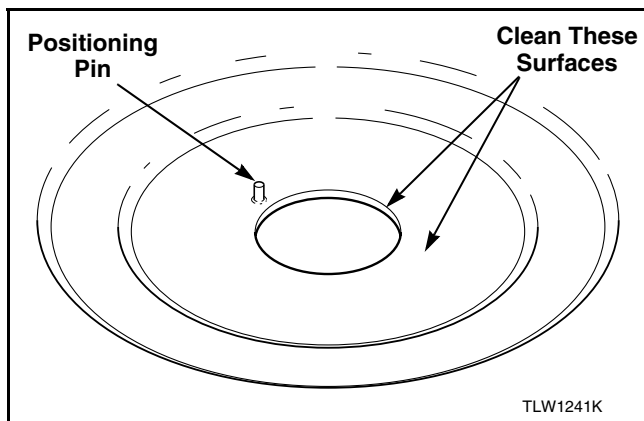

Figure 50
- u. Thoroughly clean all foreign material from outer tub surfaces that contact the bearing housing and seal assembly. Wipe clean with a cloth and isopropyl alcohol (rubbing alcohol). Refer to *Figure 50*.
IMPORTANT: All foreign material must be removed from outer tub surfaces before installing No. 200512 Bearing Housing and Seal Assembly. Refer to *Figures 50* and *51*.